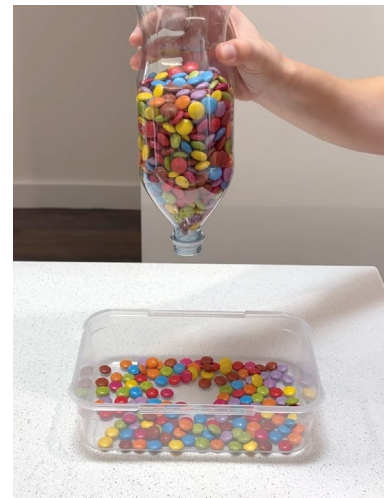

Figure 3: Jamming of smarties in bottle
- Invert the bottle over a container. Observe initial flow and jamming (figure 3).